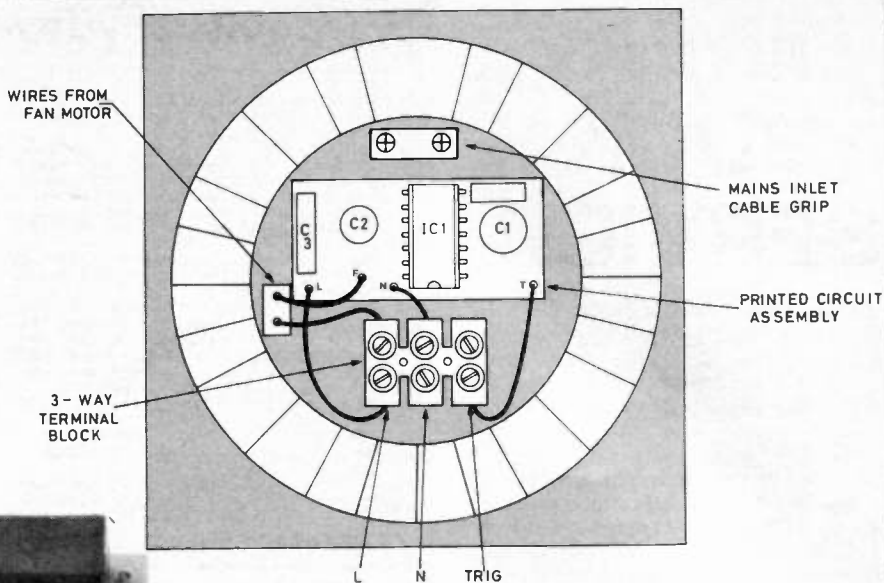

Fig. 5. Installing and wiring the timer module in the fan housing.
The fan that was modified had a two-way terminal block (the "chocolate" block type which normally come in strips of twelve) and this had to be replaced by a three-way type to provide the input trigger connection, the other two connections being Live (L) and Neutral (N). The printed circuit board had wires soldered directly to it to connect it to the terminal block. (See Fig. 5).